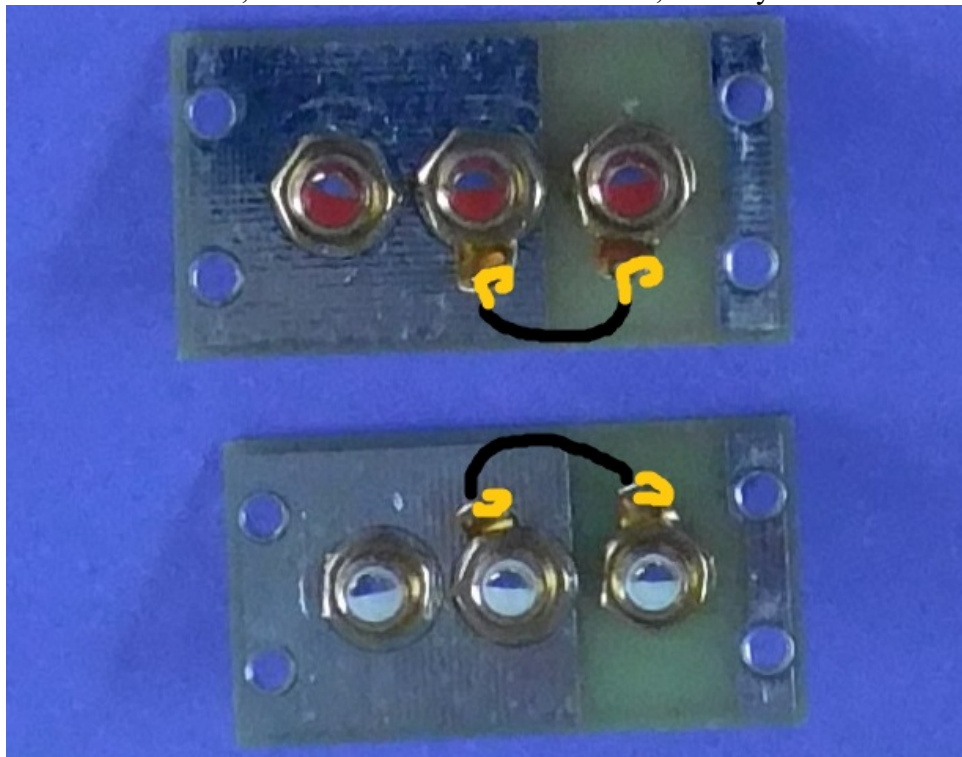

Figure 5-ground straps for PC-20 and PC-21 version of FM-5
1. Cut a two 1.25” lengths of black wire. Strip ¼” of insulation from all four ends. Form the bare ends into hooks. Slip those hooks into the ground lugs as shown in Figure 5-ground straps for PC-20 and PC-21 version of FM-5.